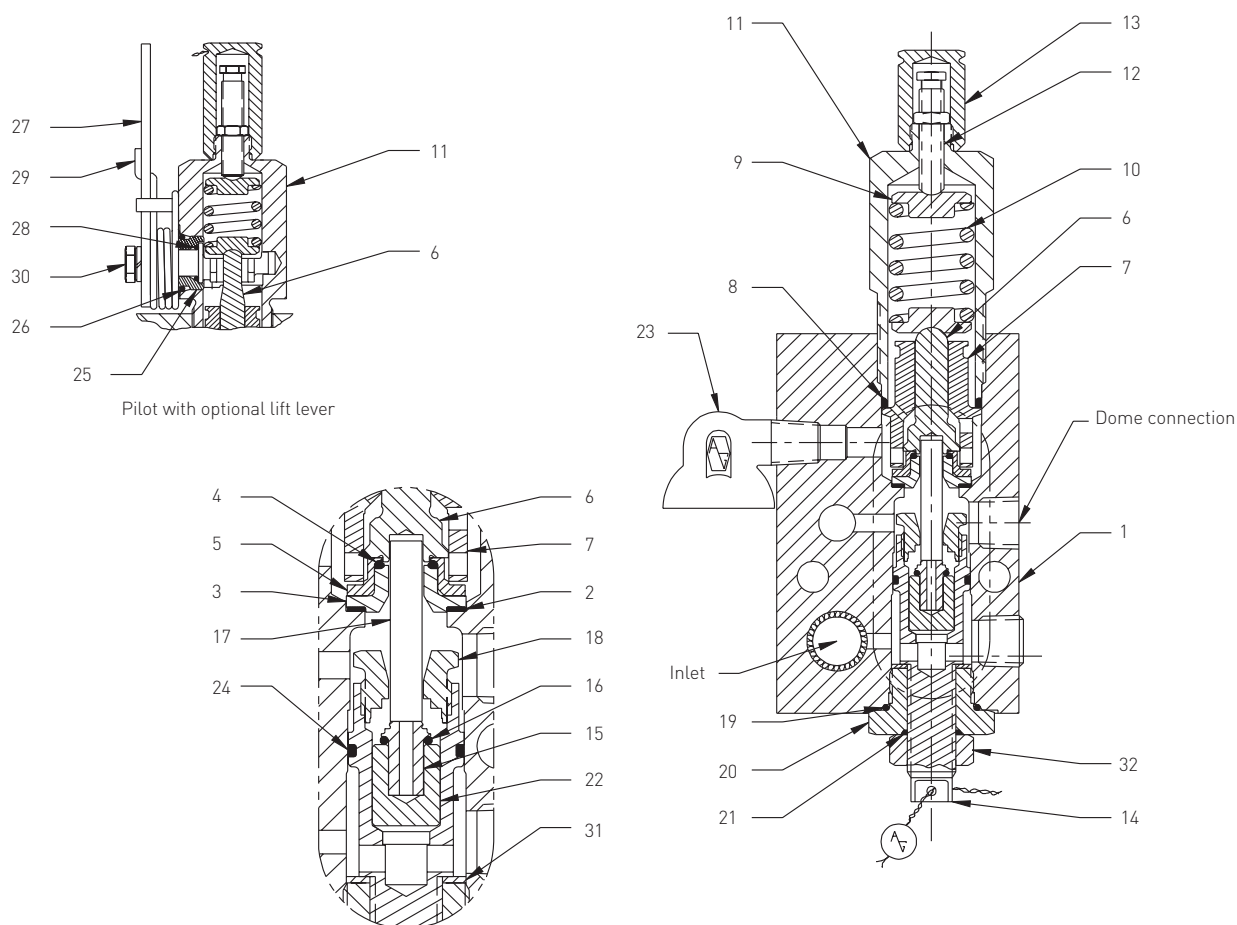

FIGURE 3
3.1.1 To facilitate assembly, place all parts in an orderly arrangement as they are removed so the correct parts can be assembled in the proper sequence. Refer to Figure 3 for parts description and location.